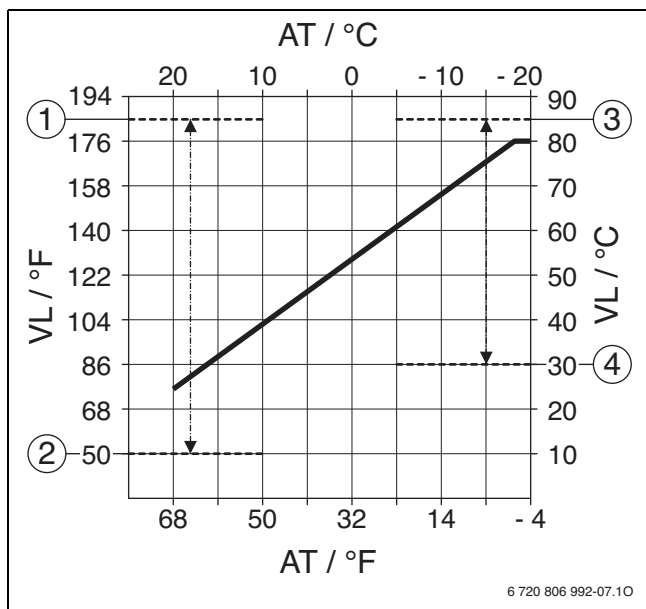

Fig. 58
- ▶ Set accordingly (→ Fig. 58).